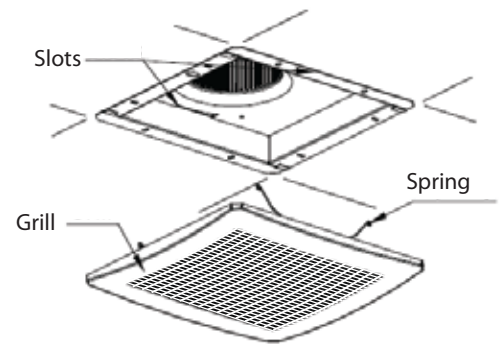

Fig. D-03
19.2 inches	Refer to Fig. D-03, E-03